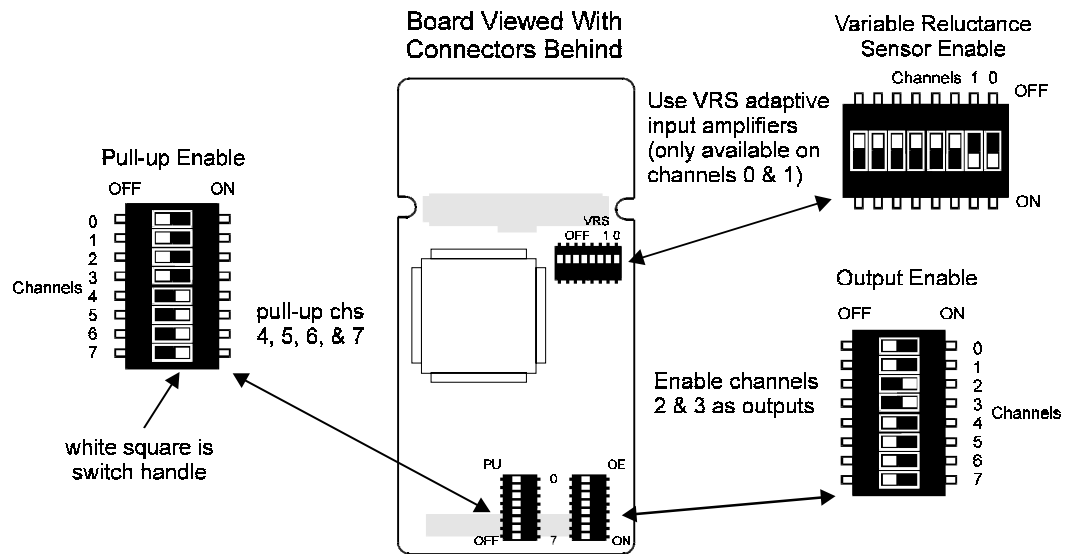

Figure 2 Switch Location and Example Settings
Locating switches Figure 2 shows the location of each channel's configuration switches.
Refer to Figure 2 for the location of the eight Output Enable (OE) switches. Move the channel's switch handle to the ON position for output, and to the OFF position for input.
Refer to Figure 2 for the location of the eight Pull-up Enable (PU) switches. Move the switch handle to the ON position to connect the pull-up resistor (connected from channel terminal to an internal +5V), and to the OFF position to disconnect the pull-up resistor (high impedance input/open drain output).